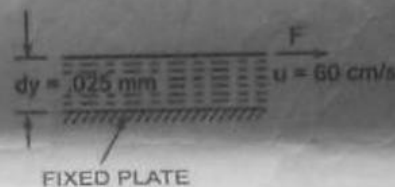

Figure 2b: Fixed Plate
- A plate 0.025 mm distant from a fixed plate moves at 60 cm/s and requires a force of 2N/ maintain this speed as depicted in Figure 2b. Determine the fluid viscosity between the plates.